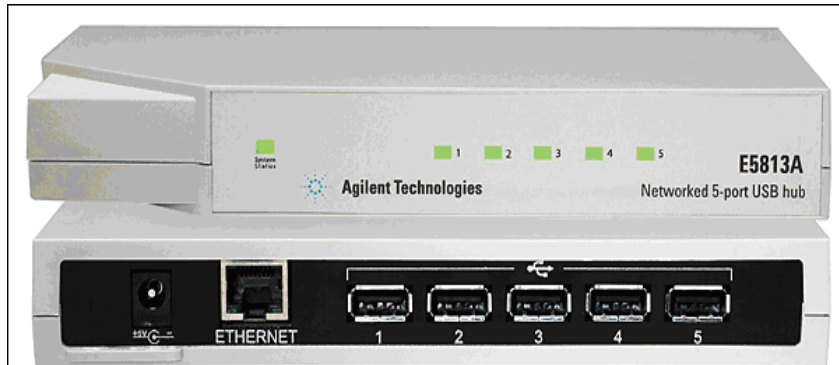

Figure 2-12 Networked Five-Port USB hub
- 2 Interface a variety of GPIB, RS-232, and USB devices as necessary to complete your test system. (GPIB and RS-232 devices require attachment of a converter to the E5813A). See Figure 2-12.